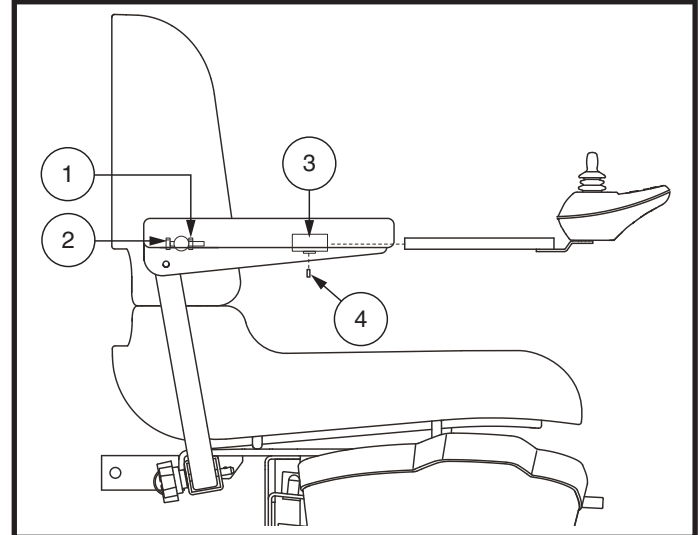

Figure 13. Controller Position (Go Chair shown)
3. Flip up the armrest and loosen the setscrew. **See figure 13.**